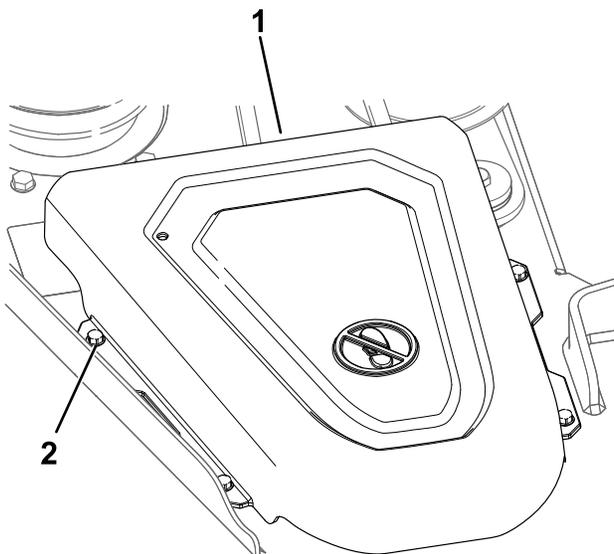

Figure 51
4. For 122 cm (48-inch) decks, loosen the 4 screws for both pulley covers and remove the covers (Figure 51).
9. For 91 cm (36-inch) decks, install the pulley covers (Figure 51).